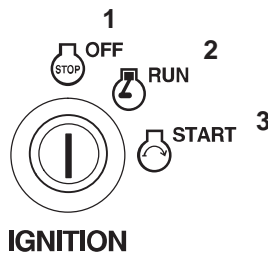

Figure 13
5. Turn ignition key to the start position. When engines starts, release key (Fig. 13).
4. Turn the ignition key to the off position and remove the key (Fig. 13).